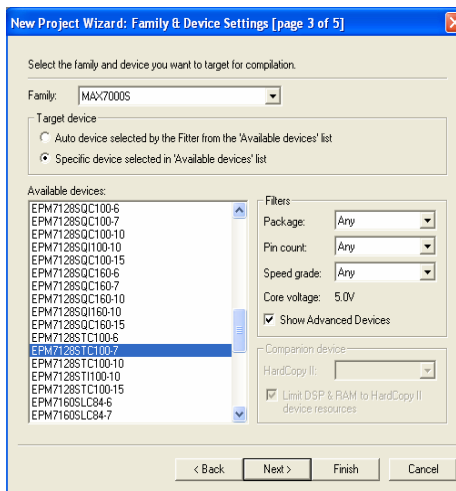

Figure 3.3: Family and device settings.
- ii) Click Next (Figure 3.3).